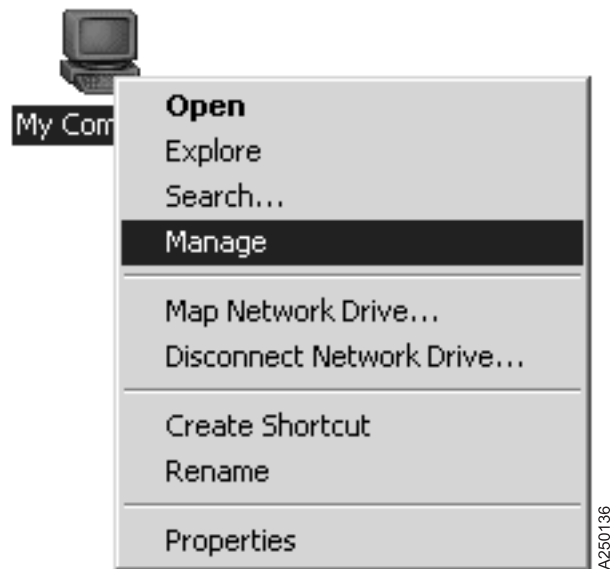

Figure 25. My Computer Menu
5. The drivers are now installed. Instructions for configuring the drivers follow. Right-click **My Computer**, then click **Manage**. See Figure 25.